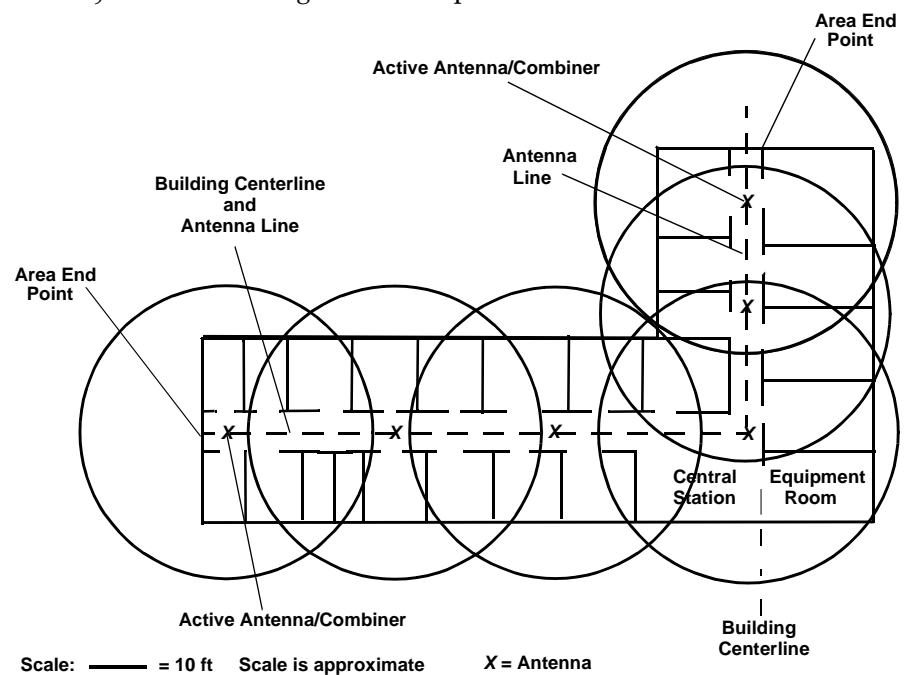

Figure 9-5 Placing Antennas
Step 1. Place an antenna at each Area End Point. See Figure 9-5.
Step 2. Place the remaining antennas equally along the antenna line. See Figure 9-5.